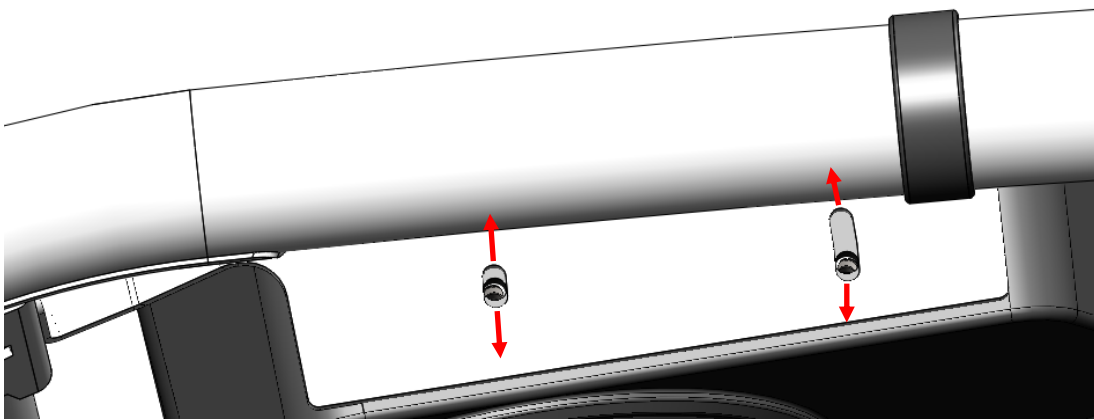

Figure 9: Adjustable positioning of the *Audio Mini*.
8. Tighten the 4 mounting bracket bolts after achieving the desired viewing position relative to the roof or roll cage. A slot in the front hole allows up-down movement, while the rear hole allows the *Audio Mini* to pivot to achieve your desired viewing position. See Figure 9. Torque the bolts to 10 ft.-lbs.